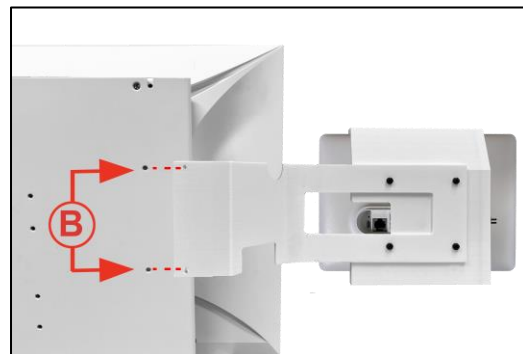

Figure 25. Aligning Navigator Bracket
The rear of the Cisco Navigator support assembly is then lined up with the mounting holes or the rear of the Cisco 20x CLINiC (B) as shown in Figure. 25.